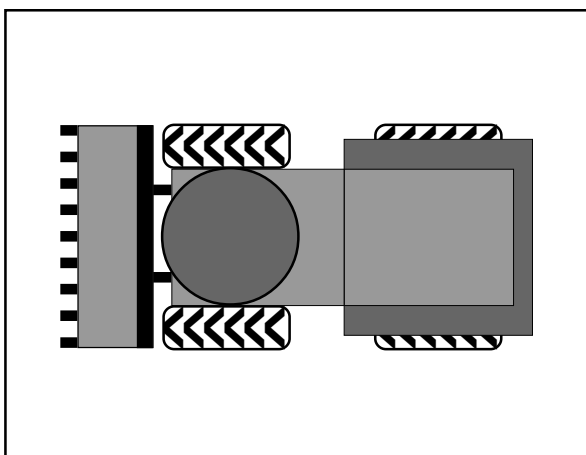

Fig. 4-4
- All four wheels must be of the same size and have the same PR (ply rating) number. Refer to Fig. 4-4 for the running direction.